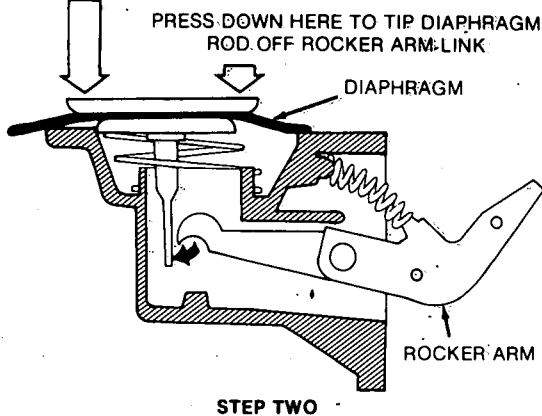

FIGURE 15. REMOVAL OF J-SERIES DIAPHRAGM ASSEMBLY.
3. To release the pump diaphragm, press down on the base of the diaphragm at the edge farthest from the pump mounting flange. Without releasing this edge, press down on the opposite edge. This action will unhook the diaphragm actuating rod from the rocker arm link (Figure 15).
1. Lubricate the diaphragm actuating rod and install the new diaphragm in the pump. Reverse the procedure used for removal, rolling back the diaphragm fabric to view the rocker arm link (Figure 15). Hold the pump body upside-down so that the weight of the link will keep it within reach of the diaphragm actuating rod.